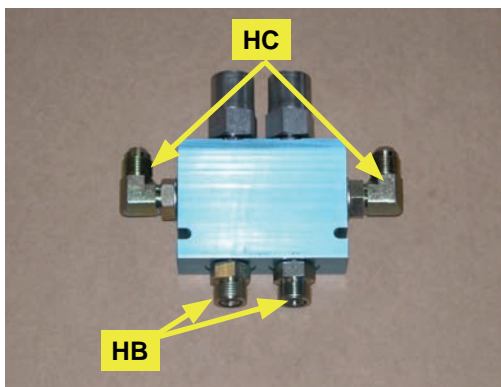

Figure 1c: Elbow and straight adapters installed in the CBV
- d. Install the straight adapters **HB** into the **C1** and **C2** ports of the counterbalance valve and the elbow adapters **HC** into the **V1** and **V2** ports (Figure 1c).